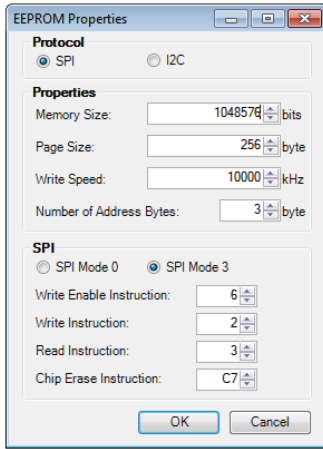

Figure 65. EEPROM Properties Window and Required Settings
7. An **EEPROM Properties** dialog box appears. Type the appropriate information into the boxes as shown in Figure 65, and then click **OK**.